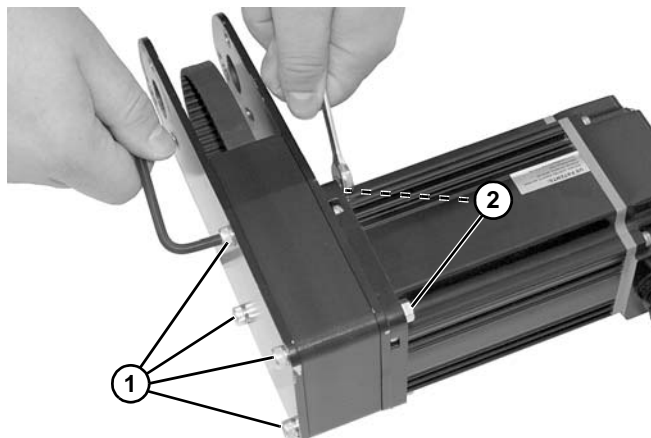

Figure 25
8. Remove four screws (**Figure 25, item 1**) and nuts (**Figure 25, item 2**).